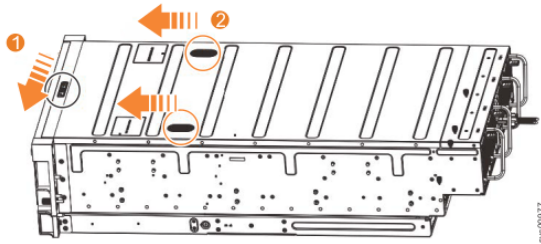

Figure 52. Releasing the 5U expansion enclosure cover
1. Slide the release latch (1) in the direction that is shown in Figure 52 on page 54.
2. Slide the cover toward the front of the expansion enclosure (2), as shown in Figure 52 on page 54.